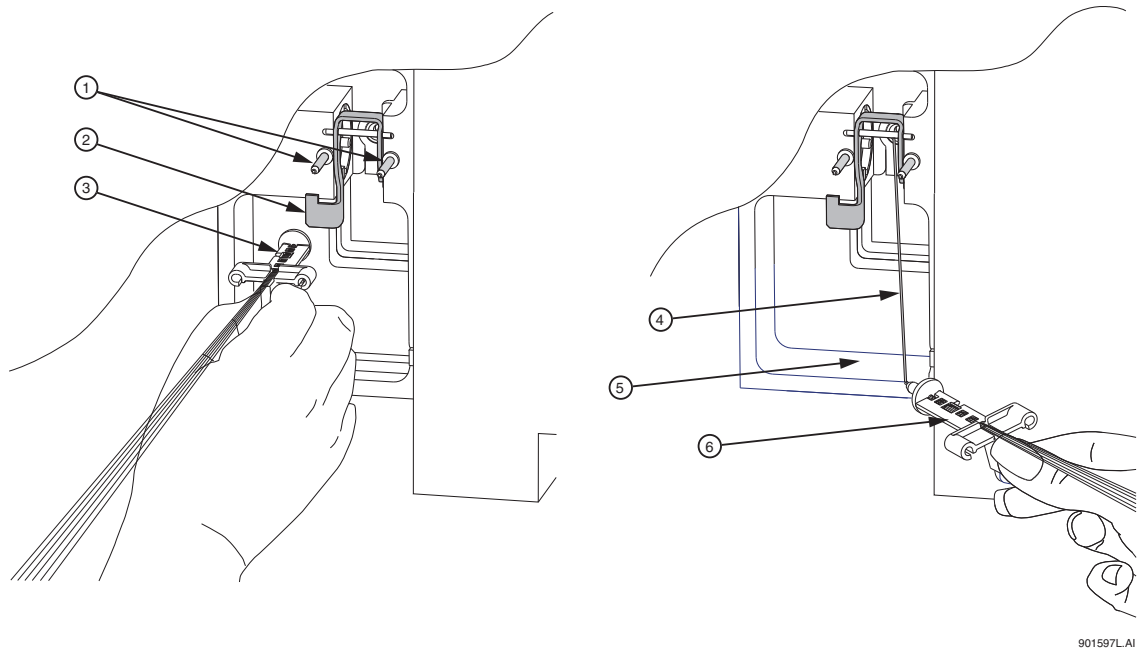

Figure 3.43 Removing/Replacing the Array Fitting
7. Lift the Eject Lever (Figure 3.43) to release the Array Fitting.
8. Grasp the Array Fitting tab (Figure 3.43) and then:
11. While holding the Array Fitting tab (of the new capillary array), align the Array Fitting (Figure 3.43) with the manifold opening and guide pins. Push the fitting into the manifold until it is completely seated against the bases of the Guide Pins. Make sure that the fitting tab is placed downward when inserting the capillary array into its slot.